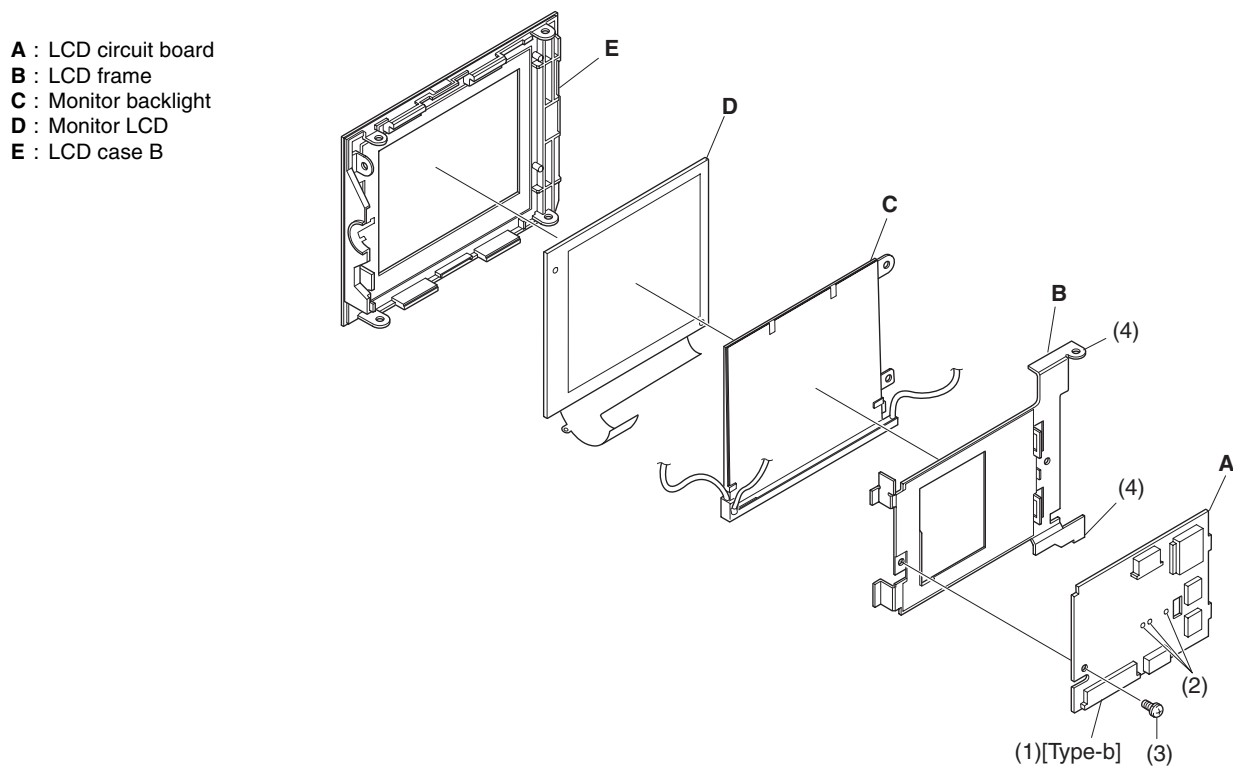

Fig. 4-10
4.10 LCD circuit board, LCD frame, Monitor backlight, Monitor LCD, and LCD case B (Fig. 4-10)